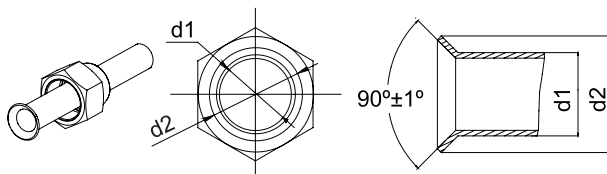

Fig.9
- (1) Cut the connection pipe with the pipe cutter and remove the burrs.
- (2) Hold the pipe downward to prevent cuttings from entering the pipe.
- (3) Remove the flare nuts at the stop valve of the indoor unit, then insert them to the connection pipe, after that, flare the connection pipe with a flaring tool.
- (4) Check if the flare part is spread evenly and there are no cracks, as shown in the Fig.9.